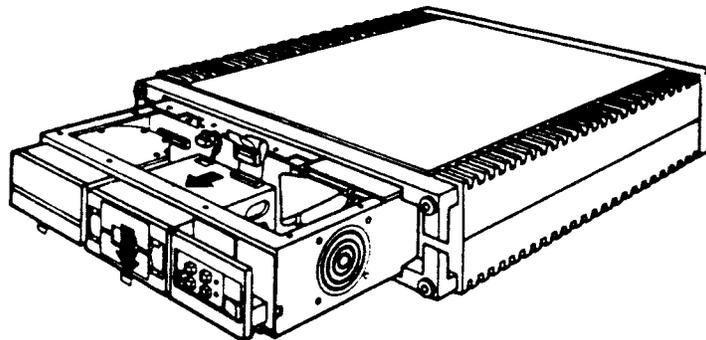

Figure 6-20: RX50 Removal
2. Push down the release tab, and slide the drive forward and out (Figure 6-20).